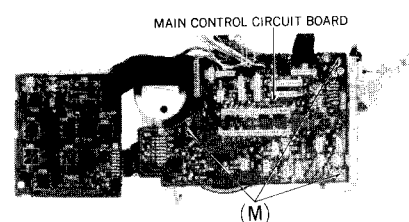

Fig. 8
㊦ Erase current Condition: * Tape selector ... Metal position * Record mode Equipment: * VTVM * Oscilloscope	<ol style="list-style-type: none"> 1. Test equipment connection is shown in fig. 8. 2. Place UNIT into record mode and measure voltage at test point 1. 3. Determine erase current with the following formula: $\text{Erase current (A)} = \frac{\text{Voltage across both ends of R272}}{1 (\Omega)}$ <div style="border: 1px solid black; padding: 5px; text-align: center;"> Standard value: $145 \pm 5\text{ mA}$ (Tape selector ... Metal) </div> <ol style="list-style-type: none"> 4. If measured value is not within standard, adjust VR9.  <p style="text-align: center;">Fig. 8</p>